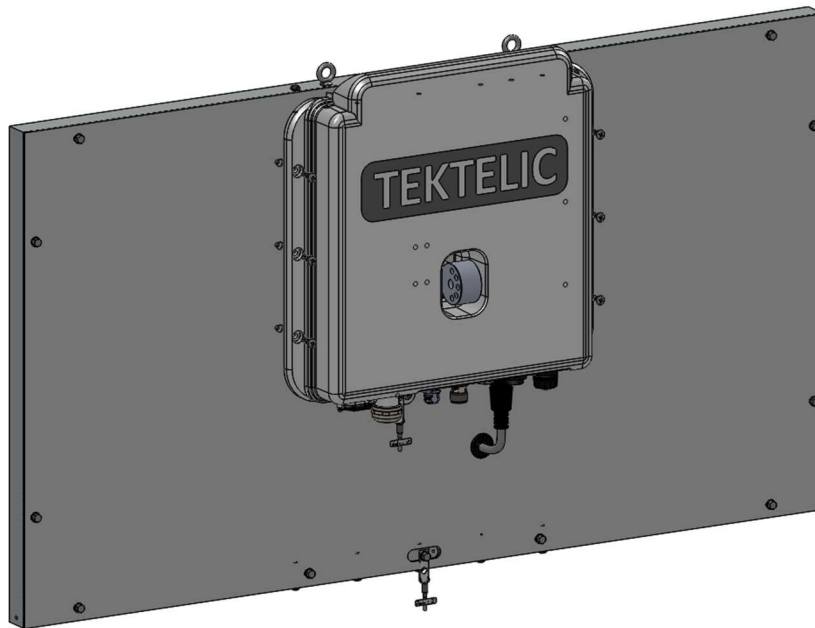

Figure 16: Photon Gateway Assembly
2. The radio module mounts to the rear of the solar panel with 6 M5 X 0.8 - 14 MM machine screws (Phillips drive). Orient the radio module as shown in Figure 16 with the connector field facing down. Tighten the mounting screws to 2.5 Nm (22 in·lbs).